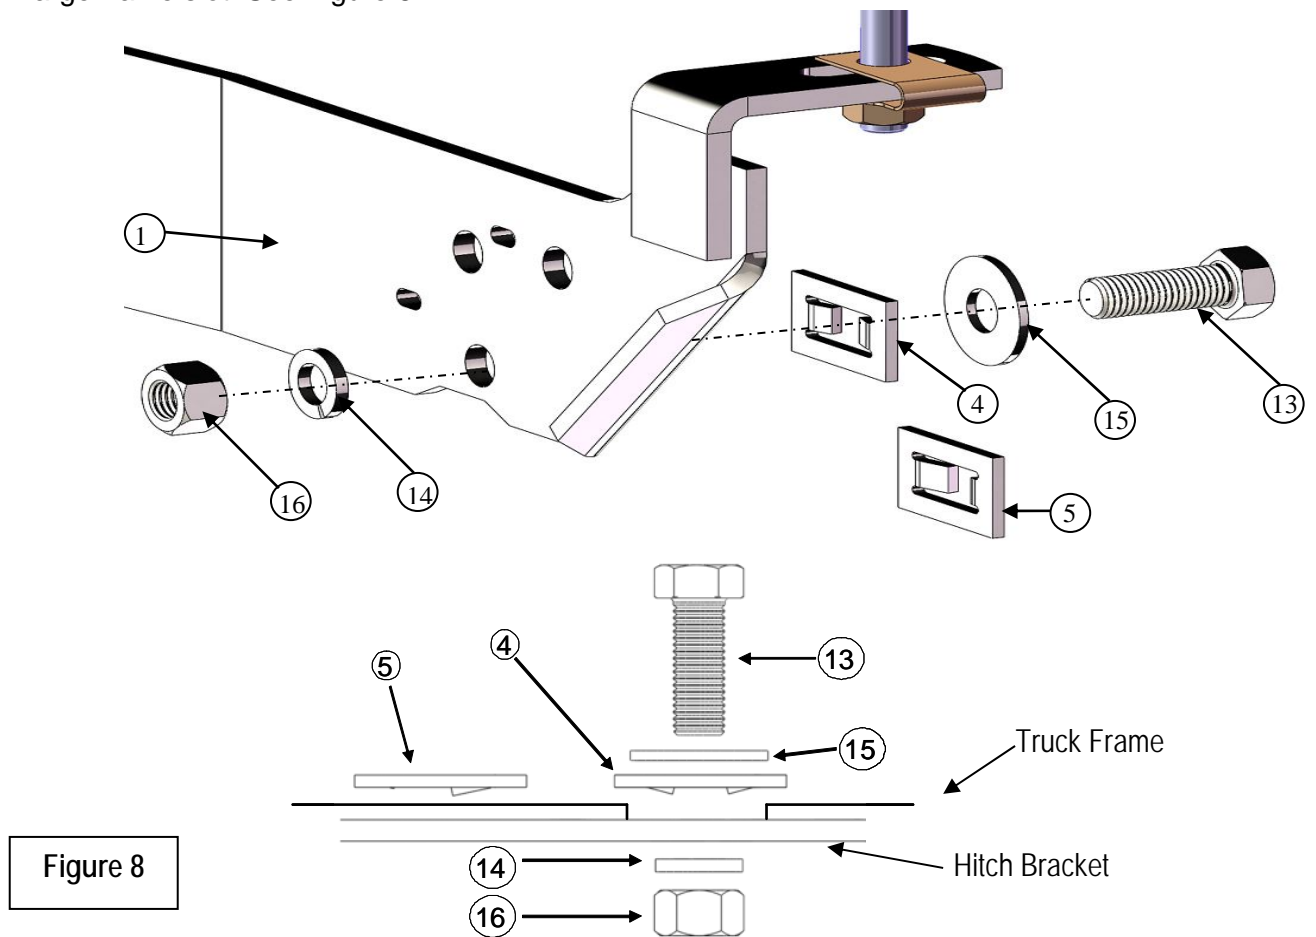

Figure 8
10. At the rear of each frame bracket there are two large attachment holes. Choose the one hole which lines up with the existing hole in the truck frame. Bolt frame bracket to truck frame with 3/4" fasteners as shown in Figure 8. Be sure to use one of the alignment spacers (#4 or #5) that will best line up with the bolt and large slot in the truck frame. Alignment spacer must rest fully into the large frame slot. See Figure 8.